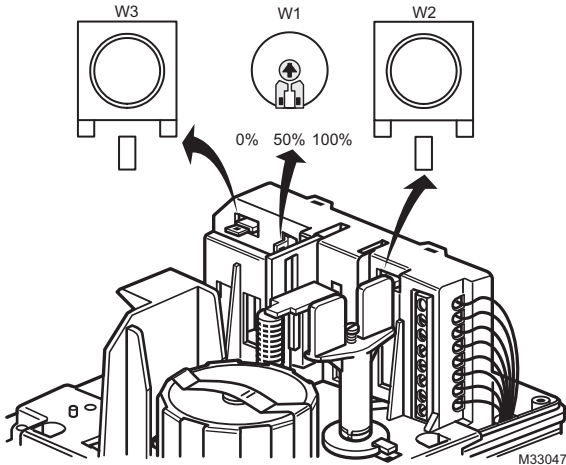

Fig. 15. Location of W1, W2, and W3 Selector Plugs.
The analog input signal (+) range is set at the factory to 0 to 10 Vdc. Changing the position of the W2 selector plug sets the range to 2 through 10 Vdc. Selector plugs W1, W2, and W3 are positioned on the back side of the printed circuit board. Refer to Fig. 15 for location of the selector plugs.
up on decreasing signal. When the valve stem is up, the output signal from the feedback (F) function is 0 or 2 Vdc. The output of the signal does not change when W3 is used to reverse the action of the actuator (see Fig. 15).